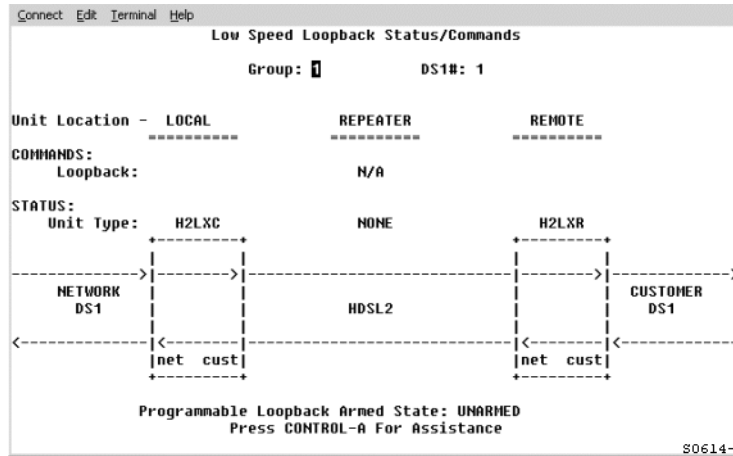

Figure 23. Low Speed Loopback Status/Commands Screen
- 3 Select **4. Loopback Status/Commands**. The Low Speed Loopback Status/Commands screen displays (Figure 23 on page 31).
7 Press **Y** to activate the loopback command or press **N** to cancel the command. Pressing **Y** causes the screen to disappear momentarily. The currently active loopback then displays (Figure 23).